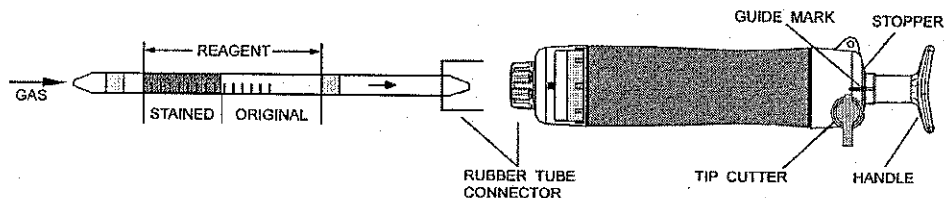

Fig.1
- ② Insert the detector tube into the aspirating pump securely as shown in Fig.1. (Arrow mark shall point to the pump.)
- ③ Align the guide marks on the shaft and stopper of the aspirating pump.
- ④ Pull the pump handle at a full stroke until it locks and wait for 1 minute or until the completion of sampling is confirmed with the flow indicator of the pump (See descriptions about the flow indicator in the instruction manual of the pump).
- ⑤ Turn the pump handle right or left by 1/4 (90°), push back the handle without removing the detector tube from the pump. Then repeat the steps ③ to ④ twice again.
- ⑥ On completion of sampling, read the scale at the maximum point of the stained layer.
- ⑦ When the concentrations are below the scale range, 6 pump strokes can be used to determine these lower concentrations.
- ⑧ When the concentrations are over the scale range, a 1 pump stroke can be used to determine these higher concentrations.